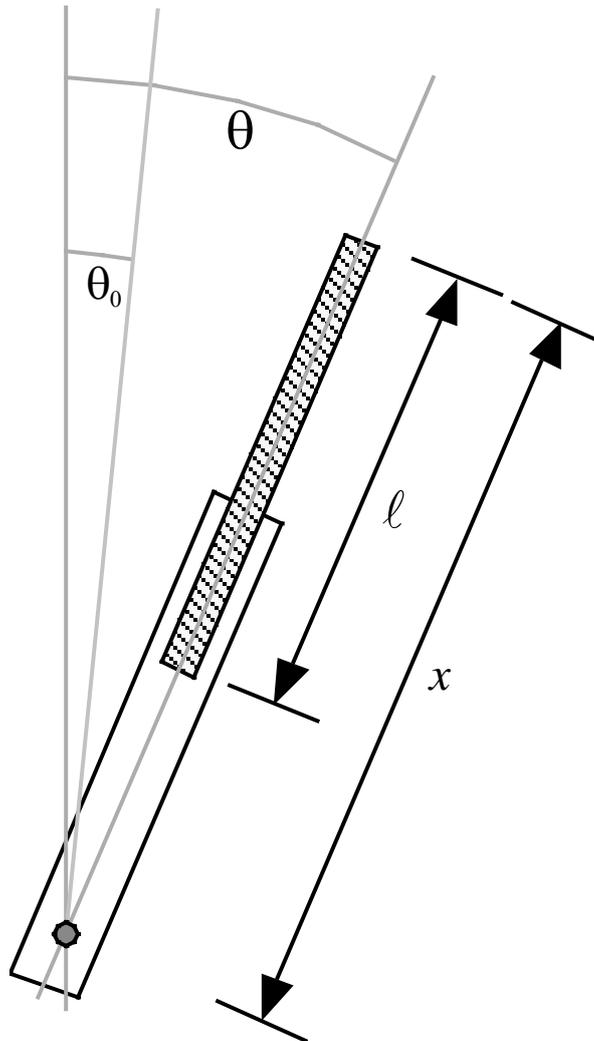

Figure 3: The variables θ and x and the parameters θ_0 and ℓ are shown here.
4. Write the pendulum equation of motion in the case of a horizontal rotation axis, as a function of the angle θ (see figure 3) and of $x, \kappa, \theta_0, M_1, M_2$, the total moment of inertia I and the position $R(x)$ of the center of mass. [1 point]